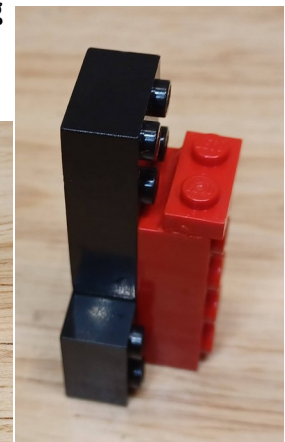

Figure 6: Glue a 1x2 plate to the side of a 2x4 block. Here it is standing on end to help gluing.
- *Figure 6*. Snap the 2x4 top block (red in the figure above) to two 2x4 blocks as a jig and stand it on end. Glue a 1x2 plate to the side of the block with a gap of about 1 mm.